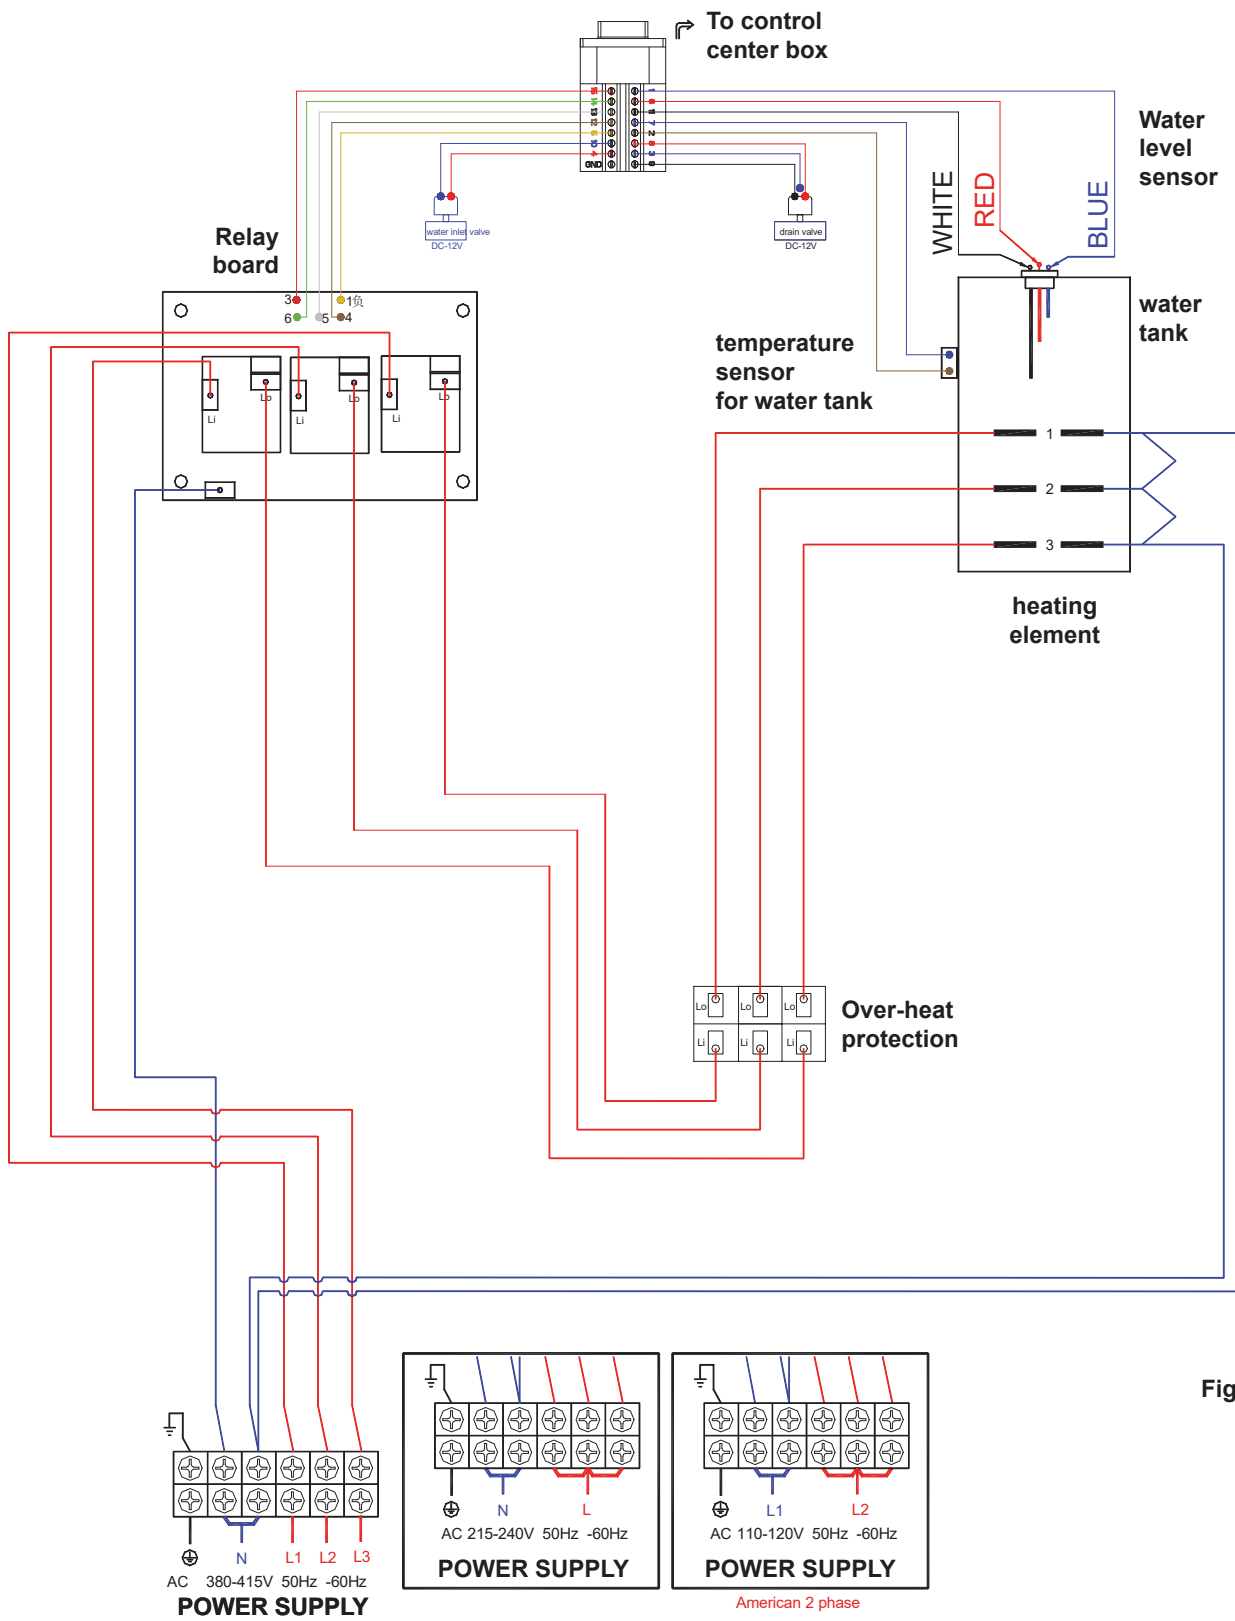

Figure 2
- A manual resetting 120°C temperature control switch is installed in the steam generator for over-heat protection. If temperature of inner tank exceeds 120°C accidentally, the switch will automatically disconnect power supply to heating element. In this case, it is necessary to disconnect the power supply to steam generator, and then carefully check heating elements, relay on sub-board and water supply pipeline after steam generator completely cool down. The temperature switch could only be manually reset after the fault has been located and solved. The temperature control switch is as shown in figure 2 - 3 - 4.